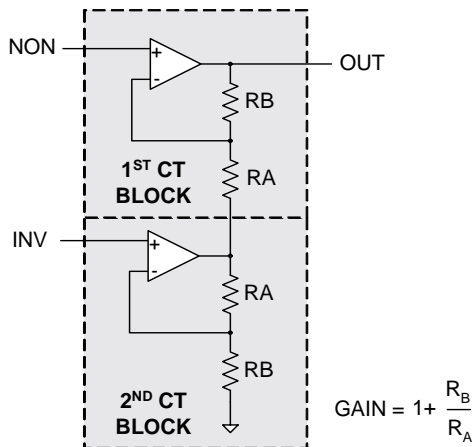

Figure 23-2. 2-Opamp Instrumentation Amplifier
**Bit 2: CMOUT.** The analog array may be used to build two different forms of instrumentation amplifiers. Two continuous time blocks combine to make a 2-opamp instrumentation amplifier (see Figure 23-2).